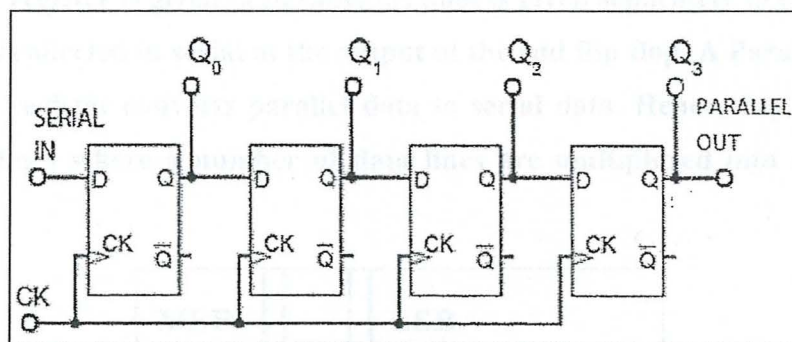

Figure 4(a)
- 4) A serial data 0111 is shifted into a shift register shown in Figure 4(a). Explain the operation of the shift register by assuming the initial data in the shift register is cleared.